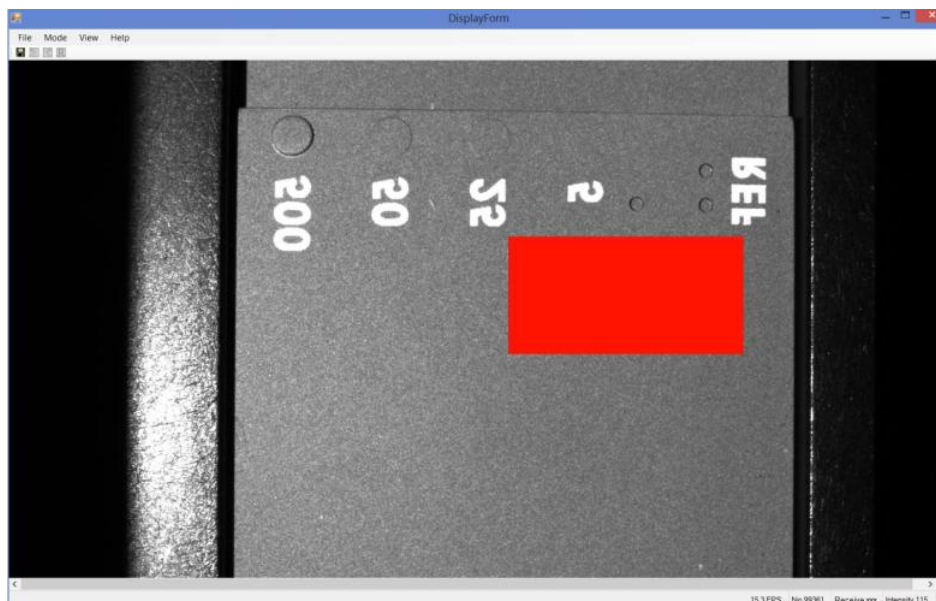

Figure 56 Display Form Dialog Box
58. A Dialog box with live View will be illustrated as below Figure 56.
63. Close the “Display Form Dialog Box” as Figure 56.